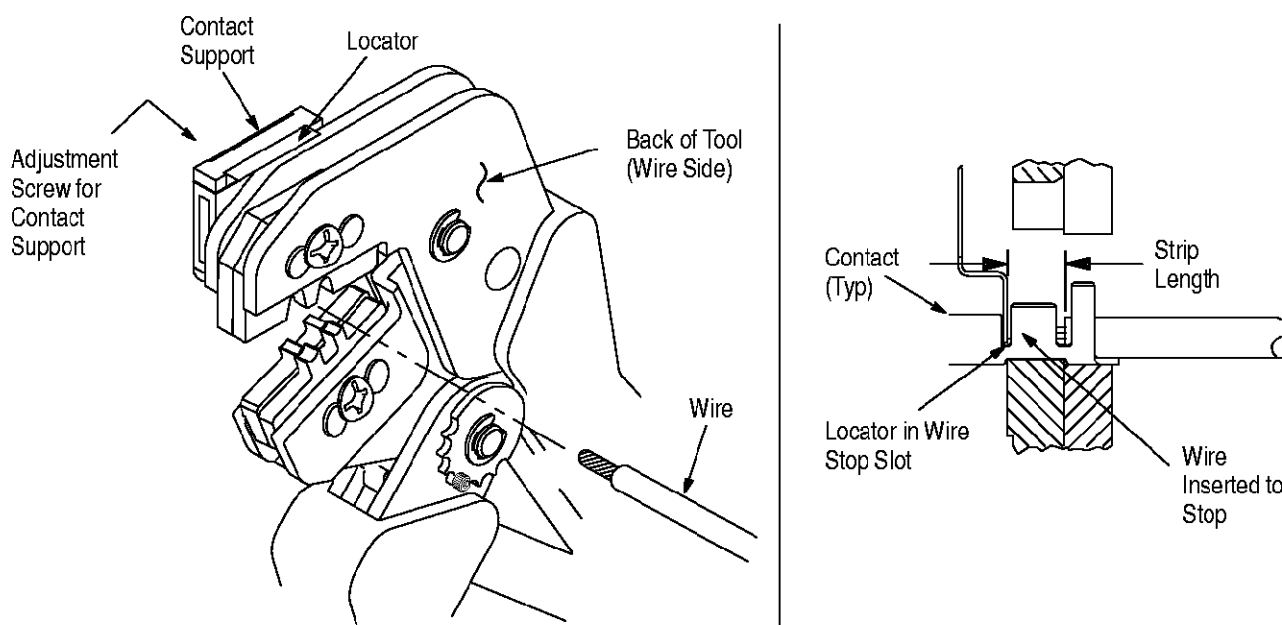

Figure 3
#### 4. CONTACT SUPPORT ADJUSTMENT (Figure 3)
Refer to the table in Figure 1 and select wire of the specified size and insulation diameter. Strip the wire to the length indicated in Figure 1, taking care not to nick or cut wire strands. Select an applicable contact and identify the appropriate crimp section according to the wire size markings on the tool. Refer to Figure 3 and proceed as follows:
3. Position the contact so that the mating end of the contact is on the locator side of the tool, and so that the open “U” of the wire and insulation barrels face the top of the tool. Place the contact up into the nest so that the movable locator drops into the slot in the contact. Refer to Figure 3. Butt the front end of the wire barrel against the movable locator.
5. Insert stripped wire into contact insulation and wire barrels until it is butted against the wire stop, as shown in Figure 3.
*The crimped contact may stick in the crimping area, but the contact can be easily removed by pushing downward on the top of the locator (see Figure 3).*